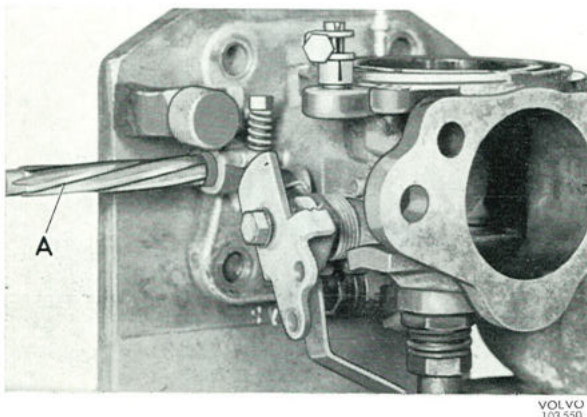

Fig. 2-107. Reaming the location for bush
2. Secure stand SVO 2603 in a vise and mount the carburetor on the stand with the hooks as shown in Fig. 2-107 for work with SU-carburetors, use the thick pin of the stand. Make sure that the pin hole comes in line with the throttle spindle hole.
3. Ream the holes for the throttle spindle in the housing with reamer SVO 2880 (SVO 2400 as alternative). See Fig. 2-107. Do not pull the reamer back through the hole, but release the attachment and push the reamer in the direction of operation through the hole in the bottom plate. If the reaming is done in a vertical drilling machine, a minimum speed must be used and the reamer carefully secured so that it does not throw. If the reamer throws, the holes will be too large. The bushes will then become loose so that the housing must be scrapped.